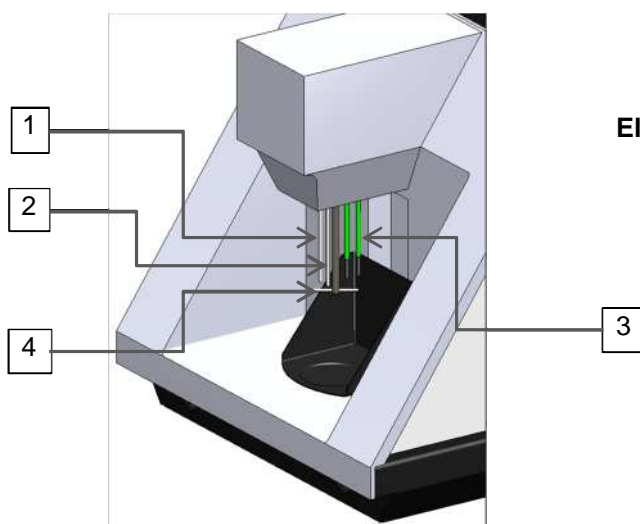

Figure 5.3
12. If necessary, adjust the vertical position of the anode, Item 2, Figure 5.3, so that it is the same length as the other electrodes.